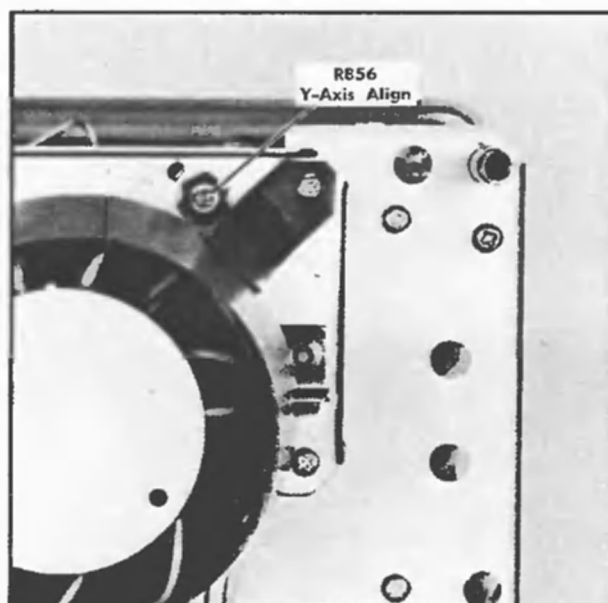
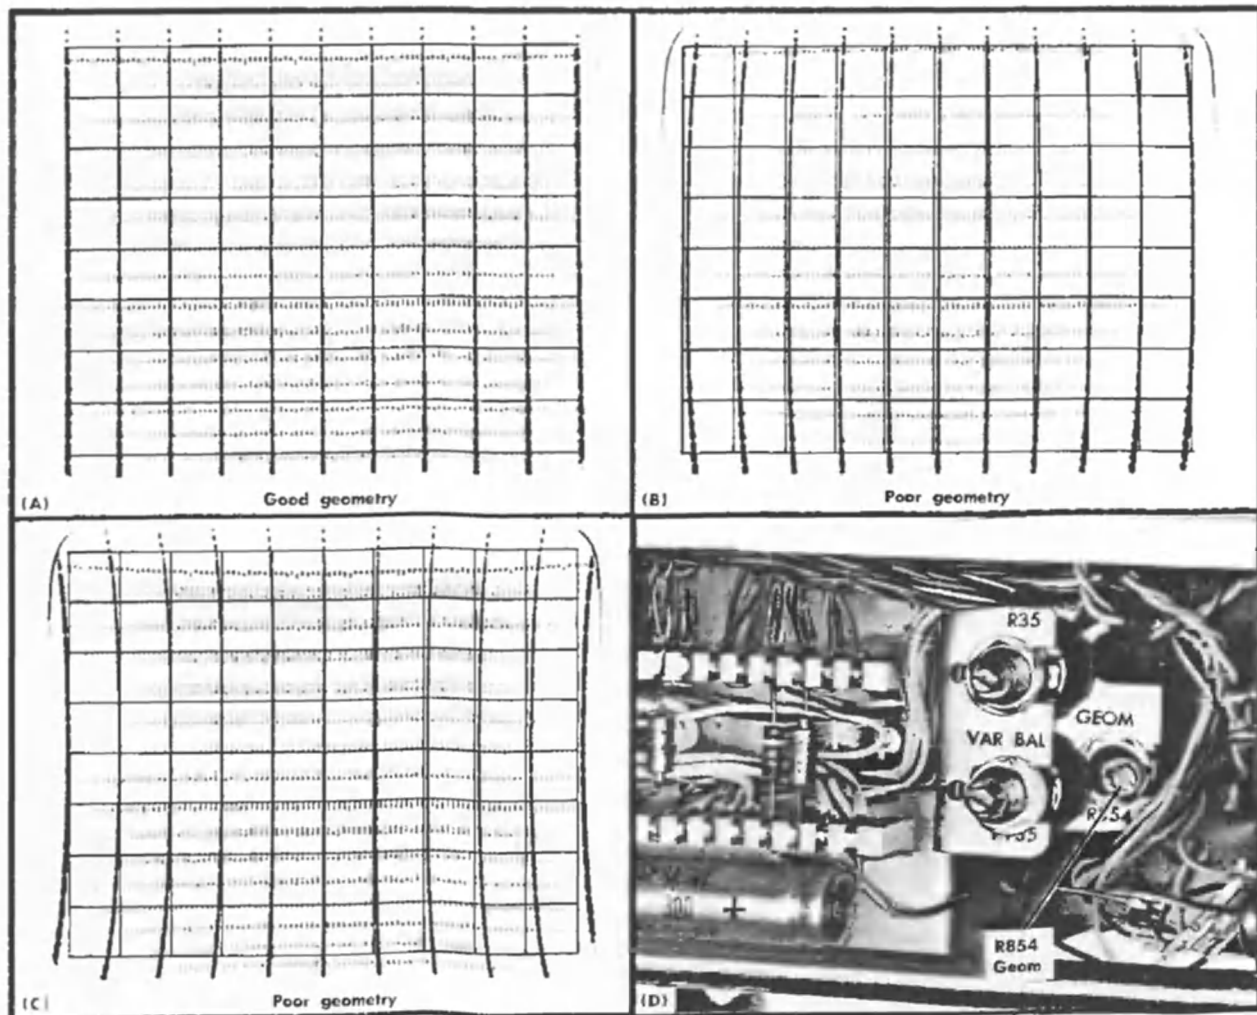

Fig. 6-11. Location of Y Axis adjustment (rear panel).
Fig. 6-12. (A) Typical CRT display of good geometry; (B) and (C) poor geometry; (D) location of Geom adjustment (left side).
- ADJUST—Y Axis Align adjustment, R856 (see Fig. 6-11), to align the markers with the centerline.
①
- CHECK—CRT display for minimum bowing of the markers at the left and right edges of the graticule. Fig. 6-12 shows a typical display of good geometry as well as examples of poor geometry.